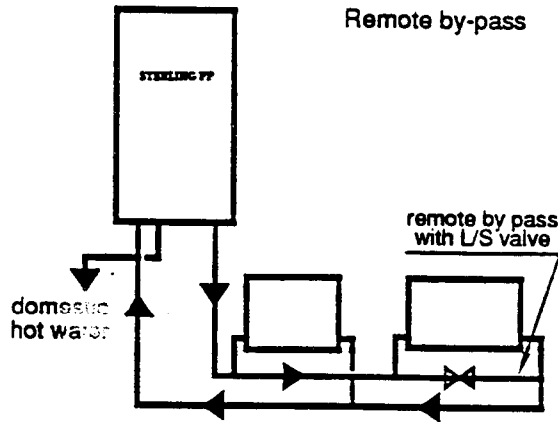

Fig. 39
It is possible if required, to have the pump running continuously by turning the switch ① anti-clockwise, see fig. 39 b. The room thermostat then only switching the burner on and off.